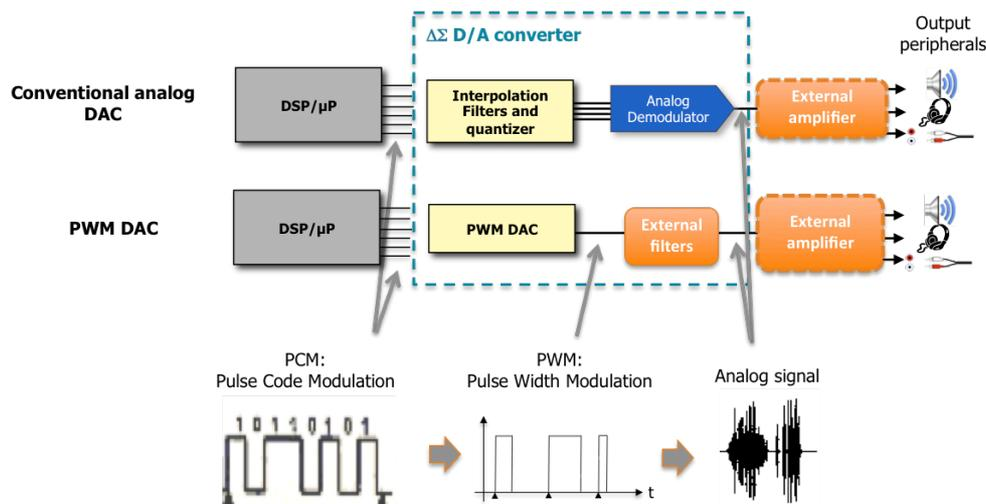

Figure 1: Principle of operation of conventional audio DAC and PWM audio DAC
Unlike this solution, the digital to analog conversion in PWM converters is based on a modulation technic (see Figure 1) that allows coding the analog signal by using only two voltage levels: the so-called Pulse Width Modulation. For years, the implementation of such modulation technics was considered sensitive design that required large analog circuitry. Especially in Integrated Circuits (IC), there was no need for such a trick. PWM had been reserved for Class D amplification. Other applications were the turf of traditional analog output, with D/A reconstruction filters and analog amplifiers. However, new parameters are changing the game and bringing PWM digital converters under the spotlights.